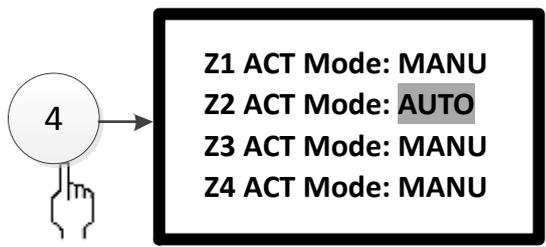

Fig. 3-30
④ Valve Start
Enter the screen as shown in Fig. 3-30 by pressing number 4 or moving cursor to select ④. Pressing Up and Down key selects a zone. Pressing Left and Right key can switch between “Auto” and “Manual” mode of valve start. Press “F1” to save the setup and then returns to the previous menu.